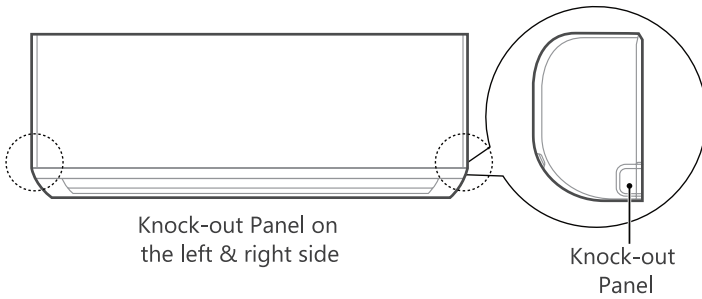

Fig. 3-2: Knock-Out Panel Location
2. If the wall hole is behind the unit, keep the knock-out panel in place. If the wall hole is to the side of the indoor unit, remove the plastic knock-out panel from that side of the unit. If the plastic panel is too difficult to remove by hand, use needle-nose pliers. See Fig. 3-2.